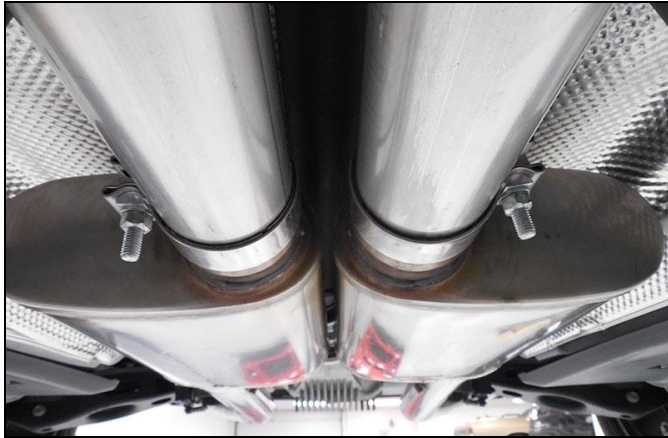

Figure 7
- Install a supplied 3" band clamp over each leg of the H-pipe outlet (bolt outside and nut down). See Figure 7.
- Install the **Mufflers or Muffler delete pipes** (depending on the kit you have) on to the H-pipe. Align and tighten the clamps to allow for adjustment (Figure 7).